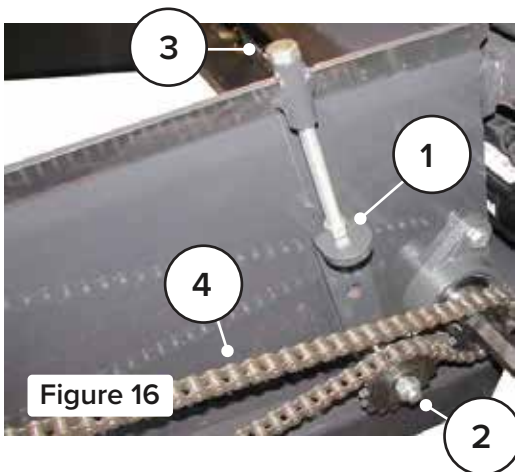

Figure 16
2. Loosen the tensioner bolt jam nut (Item 1). [Figure 16]
3. Loosen the idler sprocket nut (Item 2). [Figure 16]
4. Turn the chain tensioner bolt (Item 3) to adjust the drive chain tension until there is only a slight deflection of the drive chain (Item 4). [Figure 16]
5. Tighten the idler sprocket nut (Item 2). [Figure 16]
6. Tighten the tensioner bolt jam nut (Item 1). [Figure 16]